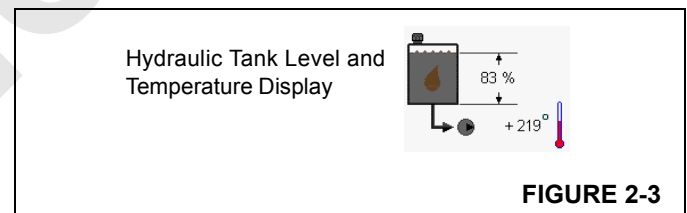

FIGURE 2-3
2. Check hydraulic oil level daily when oil is cold by looking at oil level sight gauge on hydraulic tank (7, Figure 2-27) and hydraulic tank display on information screen in cab (Figure 2-3).